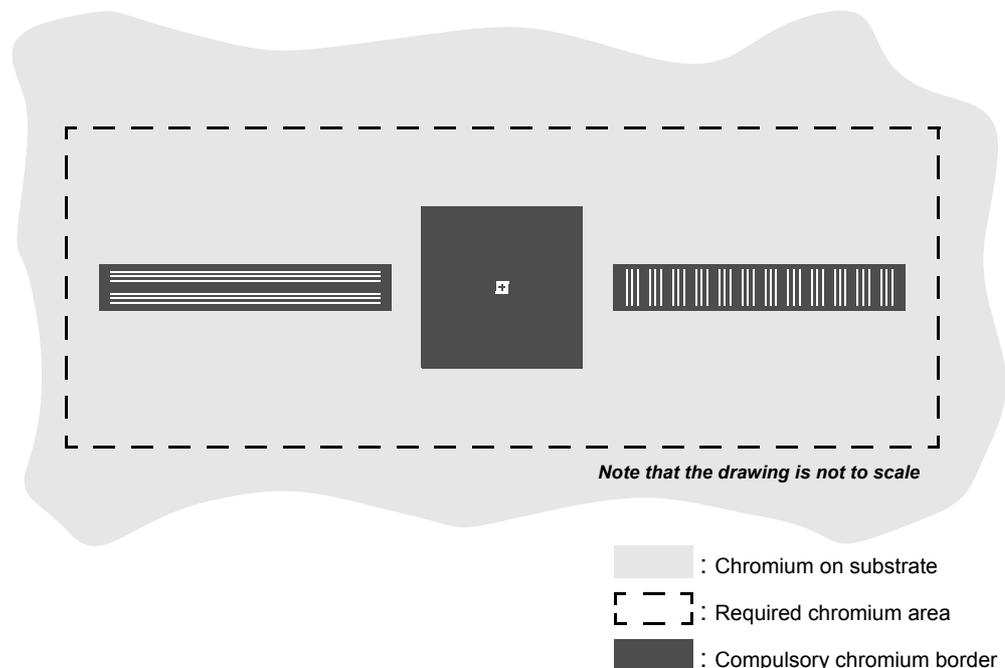

Figure 1.4 Chromium borders for TIS marks
1. The **compulsory** chromium border. This area only applies to the individual TIS-mark components (see also Figure 1.4). This compulsory chromium border is the area round the individual gratings of a TIS mark in which no other features are allowed.
The complete TIS mark again must be surrounded by a chromium area. (See Figure 1.4). Note that this specification is especially important for phase-shift reticles.